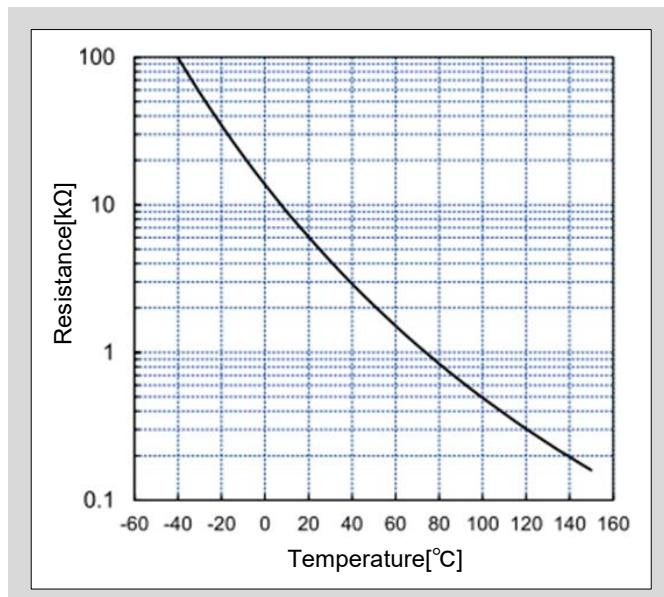

Fig.3 Temperature characteristics of NTC thermistor
The resistance of NTC thermistor decreases exponentially with temperature, as shown in Fig. 3. The resistance can be expressed by formula (1).